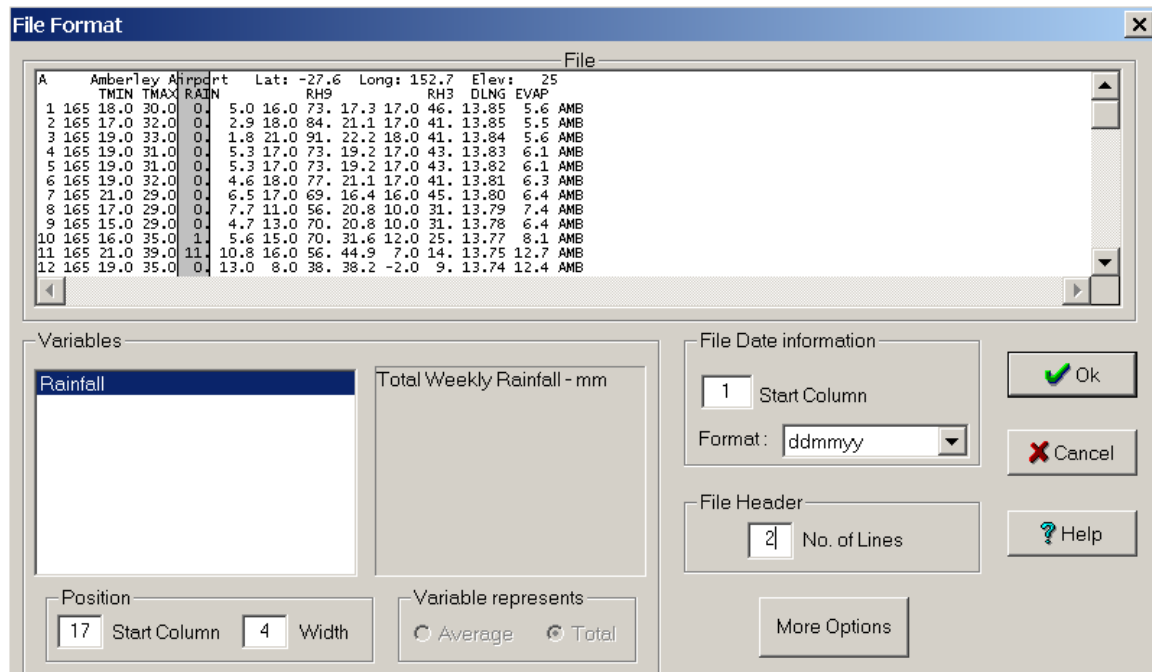

Figure 3.5 DataFile window with rainfall, file date format and file header settings shown.
4. Select the ‘**Format**’ button to produce the ‘**File Format**’ window (fig 3.5).
The ‘Data File’ window (Figure 3.5) allows the user to inform DYMEX of the format of the loaded meteorological data file so that the model can correctly interpret the data. For this tutorial the ‘More Options’ button may not be required. If pressed, additional operations become available to the user. Once opened, the ‘More Options’ window remains open until the user closes the **File Format** dialogue.
2. With the left hand mouse button held down, slide the mouse until the column shown by shading in Figure 3.5 is highlighted